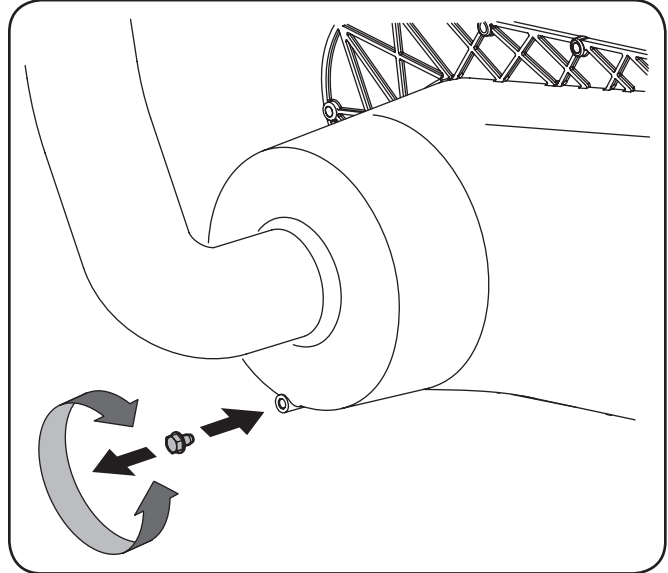

Figure 5-11
1. Remove CVT cover drain plug. See Figure 5-11.